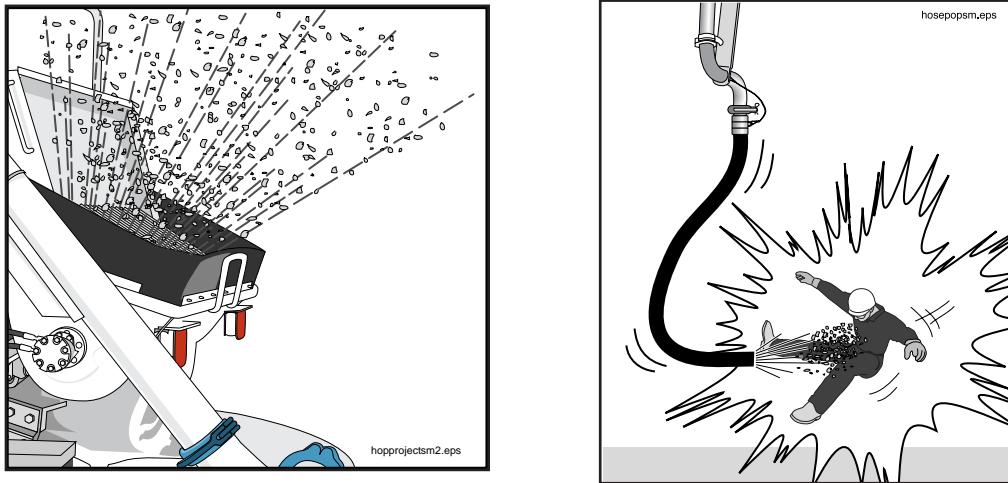

Figure 11
4.6 ⚠ WARNING! Hose whipping and other hazards. Regardless of how it happened, if air is sucked into the cylinders, the pump MUST BE STOPPED. If you cannot get the operator's attention, hit the emergency stop switch. It is the operator's job to know how to safely remove air from the pump and delivery system. Do not refill the hopper unless directed to do so by the pump operator. Stay away from the hopper and the end hose until the operator has removed the trapped air from the delivery system and has signaled you that it is safe to begin unloading again. See Figure 11.